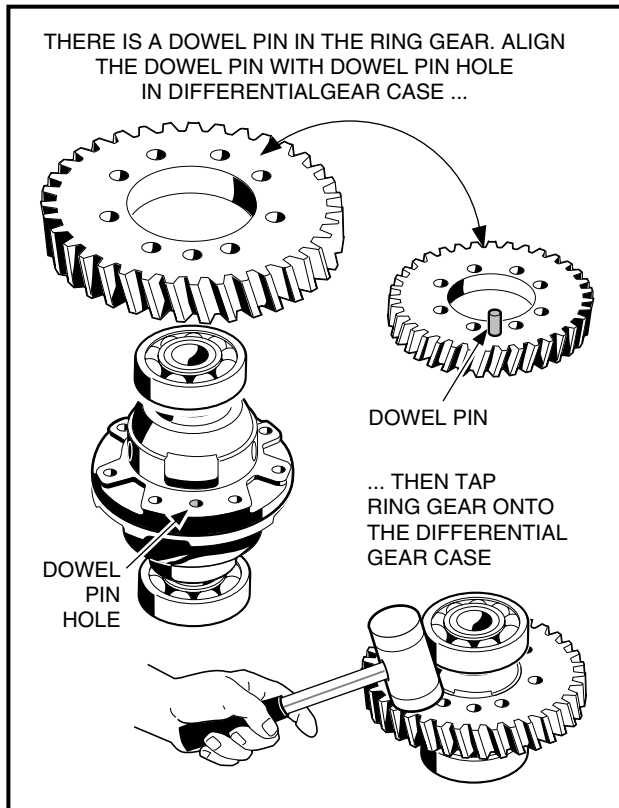

FIGURE 10-66
6. Position the ring gear (81) (**Figure 10-6, Page 39**) on the carrier case, visually aligning the dowel hole in the ring gear with the pin in the carrier. Then, using a wooden mallet, tap the ring gear into place on the dowel pin as shown (**Figure 10-66**).